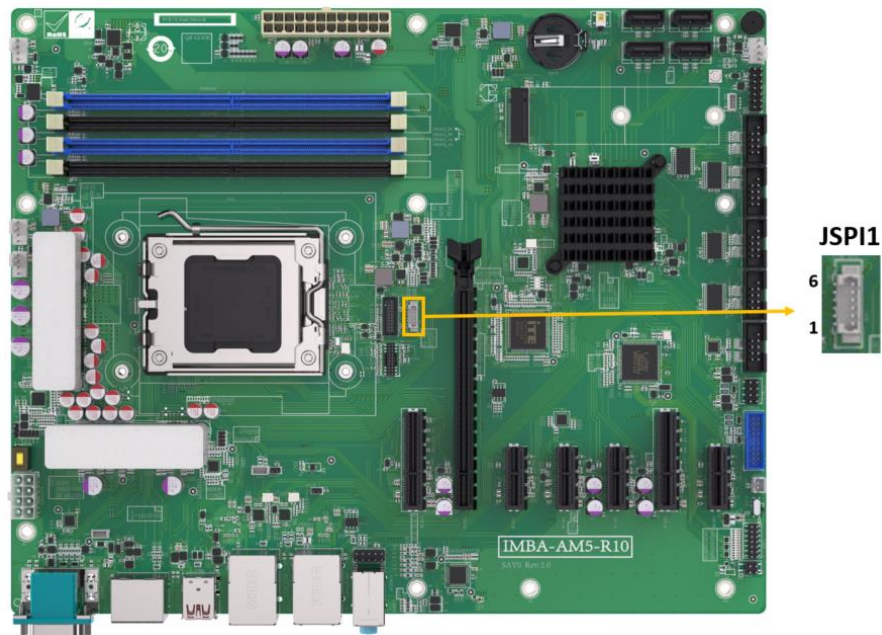

Figure 4-20: Flash SPI ROM Connector Location
- CN Location:** See **Figure 4-20**